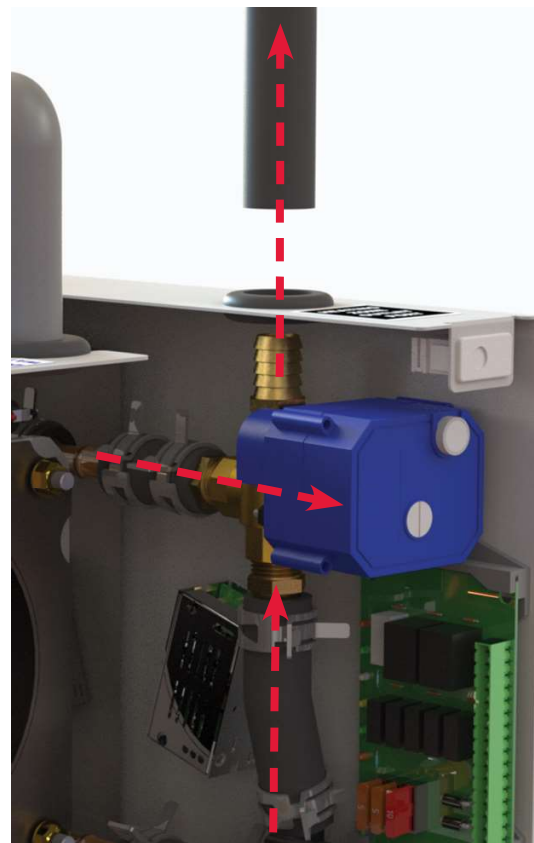

Figure 30
5. Remove the hose from the defective valve as shown in Figure 30.